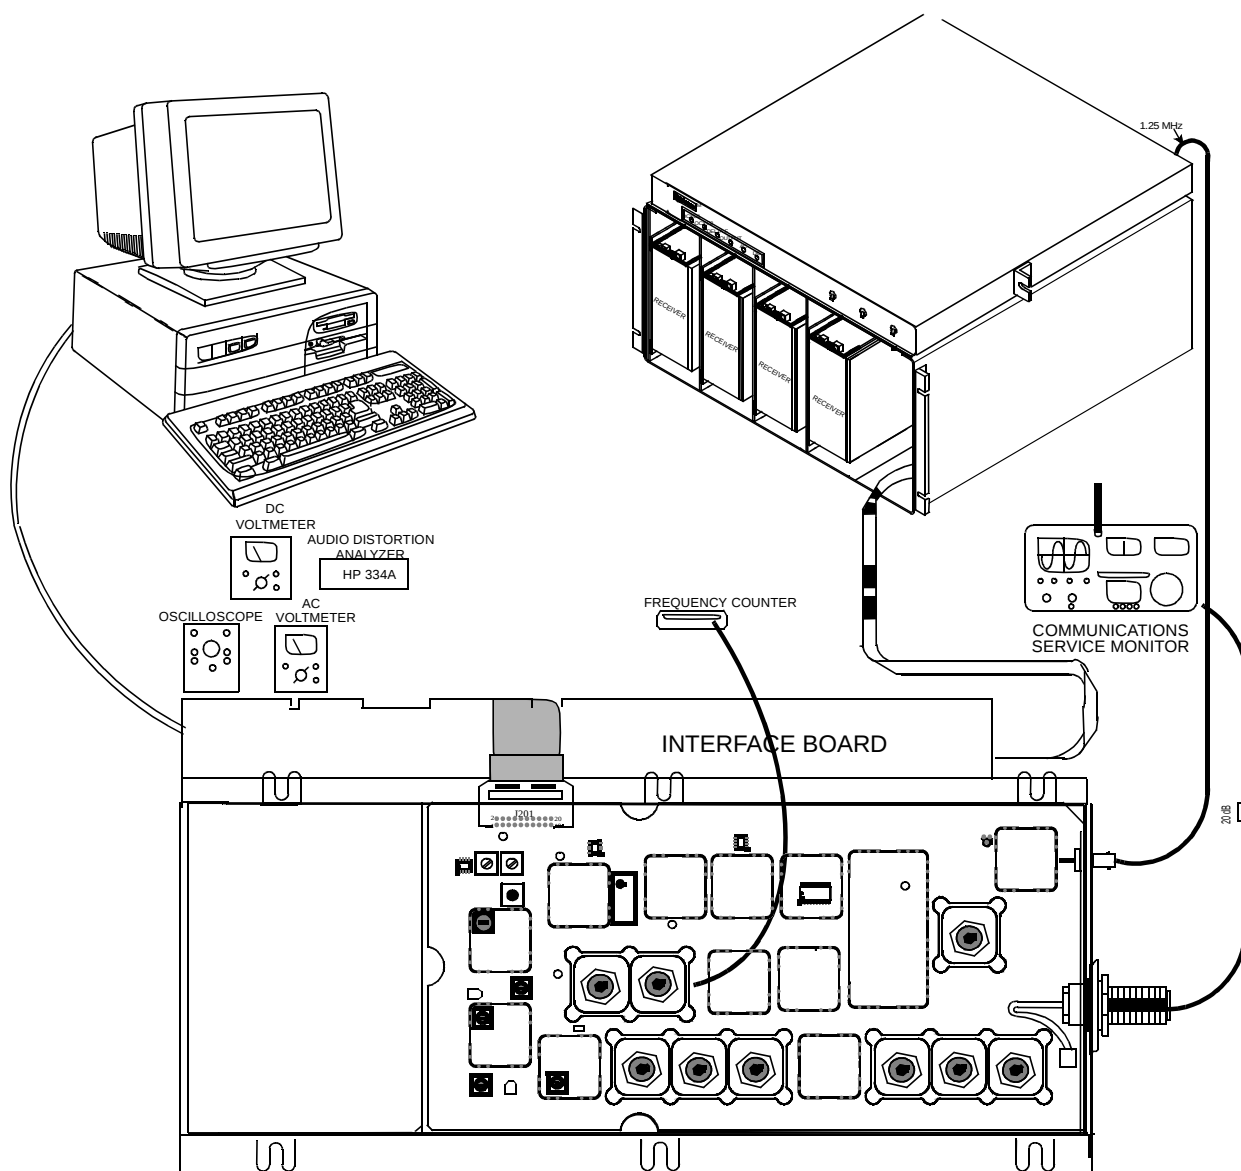

Figure 5-29 900 MHz RECEIVER TEST SETUP
4. Apply power to the Receiver by plugging the 20-pin cable from the Interface Board into J201 (see Figure 5-29).